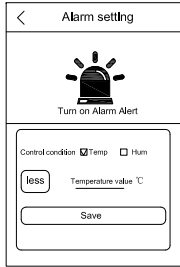

Fig.10
- Set the trigger condition of the sensor; press and hold the sensor ID to access alarm setting interface as shown Fig. 10.